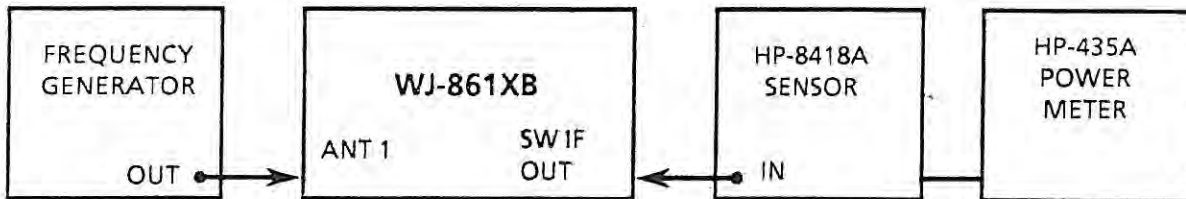

Figure H-3. NRT Threshold Test Configuration
2. Connect the test equipment as shown in **Figure H-3**.